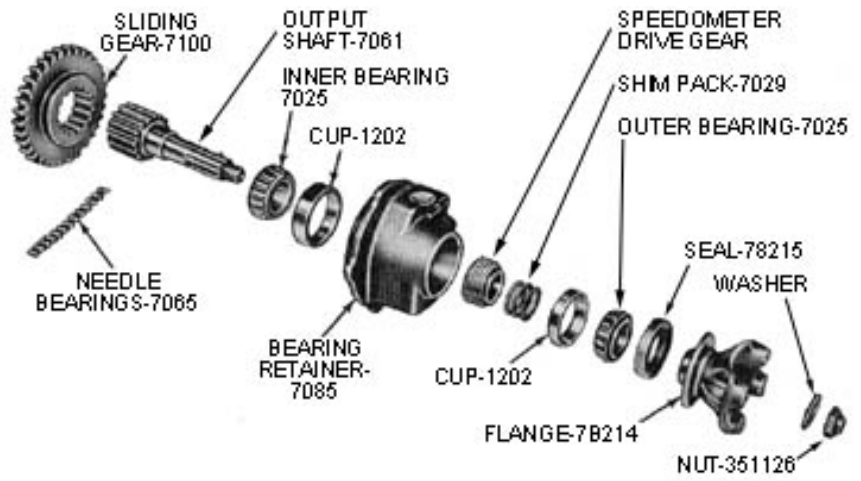

Figure 12 – Rear Drive Output Shaft, Disassembled
1. Remove the needle bearings from the bore of the shaft (Fig. 12).
4. Lift the speedometer drive gear and shims from the shaft (Fig. 12). Tie the shims together.
12. Place the bearing retainer and shaft in a vise. Install the output shaft flange and torque the retaining nut to specifications. Install a dial indicator on the flange end of the output shaft, and check the end play. The end play should be 0.003-0.005 inch. If not within these limits, adjust the shim pack (Fig. 12) between the speedometer drive gear and rear output shaft outer bearing.